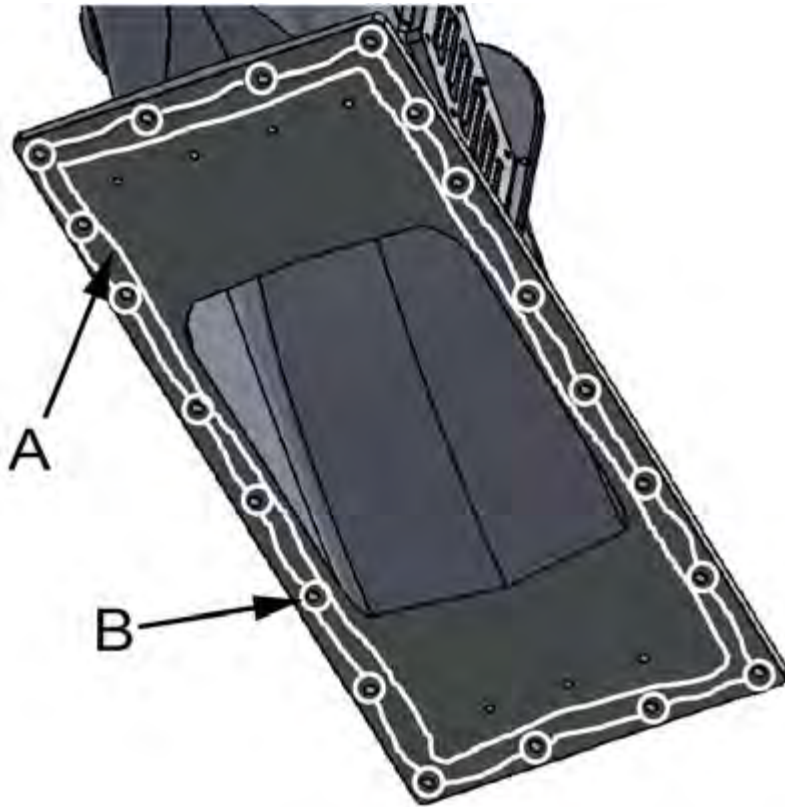

Figure 13. Installation surface on the bottom of the propulsion unit frame
2. Apply sealing compound (e.g. Sikaflex 291i) on the outer edge of the attachment surface on the bottom of the propulsion unit frame, and on the edge on the intake duct side (figure 13, point A). Sealing compound should also be applied on the installation surface of the bottom adapter.
3. Apply compound in the fastening bolt (20 pcs) holes (figure 13, point B).